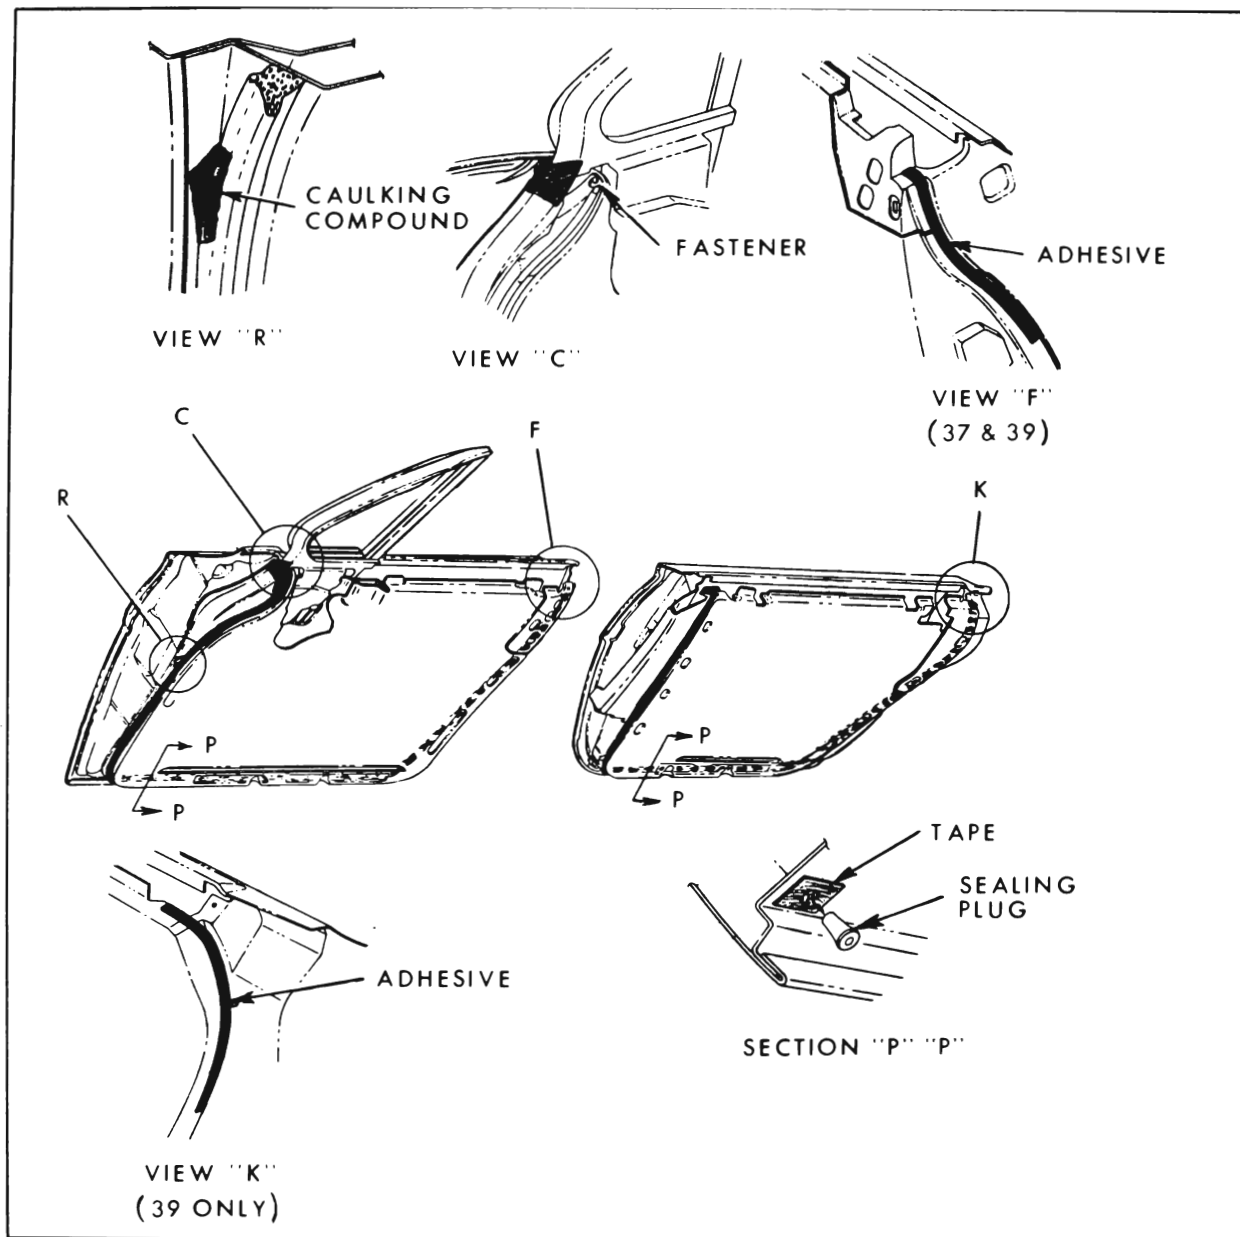

Figure 2-29—Door Weatherstrips Typical of Hardtops and Convertibles
4. With door properly supported, remove three (3) upper and three (3) lower hinge attaching screws at door hinge pillar or center pillar depending on method of removal. (See Figures 2-29 and 2-30)
1. For in and out or up and down adjustment, loosen hinge to door pillar attaching screws. (See Figure 2-29) Adjust door as required and tighten screws.
2. To adjust door fore or aft, loosen hinge to center pillar attaching screws. (See Figure 2-29) Adjust door fore or aft as required and tighten screws and bolts.